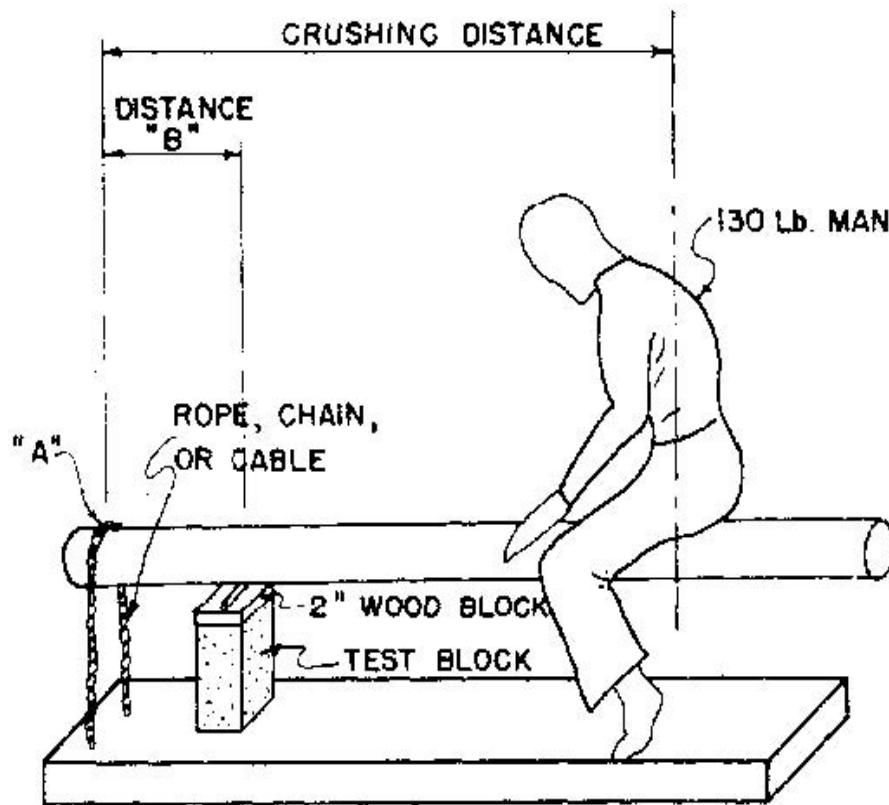
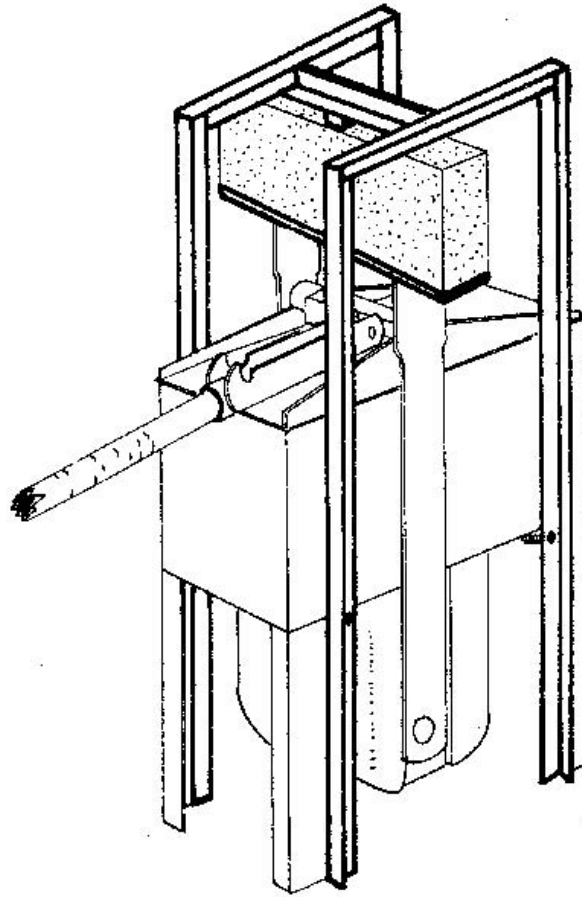

Figure 15. Simple lever test for determining strength of blocks (see Table 2).
Figure 17.
8. A form such as shown on Figure 17.
2. A way to apply and measure the load to crush the blocks. In commercial laboratories they use a machine. Another way is to use a hydraulic jack with a gage on it that will accurately measure the crushing load. You can also make an attachment for the CINVA-Ram block-making machine as shown in Figure 17 that will break the blocks. Note, that in this figure the block is not in the correct position for a compression test. You can also make a simple, lever type machine such as the one shown in Figure 15.
Using the lever arrangement shown in Figure 15, place the block the lever and apply the load. Figure 15 shows a 130-pound man sitting on the lever, but you could also hang a bucket of stones or water (or anything weighing 130 pounds) from the lever. Start with the man or weight close to the block and move slowly outward to the end of the lever until the block breaks. Then measure the distance from the end (or chain) to the weight. Call this the *Breaking Distance*. Form Table 2, you can find the crushing strength of the block. For in-between dimensions not shown in the Table, you can estimate with good accuracy.
Even if you cannot make the lever machine shown in Figure 17. you can still estimate the wet strength of blocks following the absorption test. (All dry blocks will be hard, and it would be difficult to even estimate the difference in strength between several blocks without some sort of equipment.) For this, use the "simple" strength below: